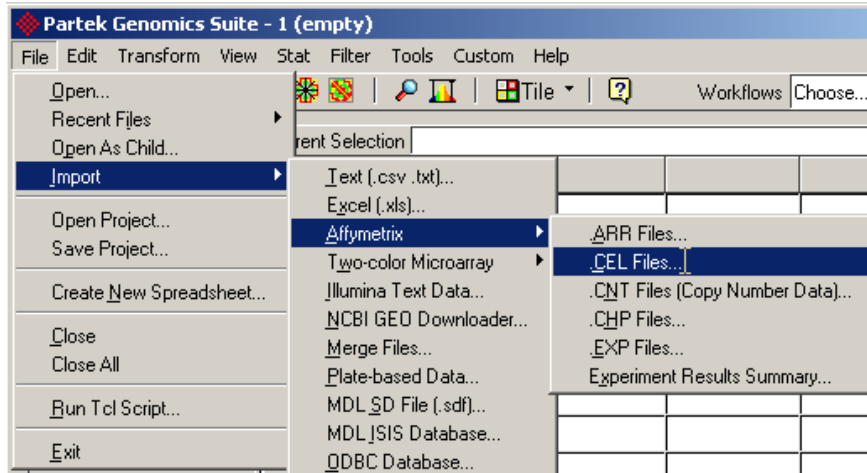

Figure 4. 17: The File > Import > Affymetrix > CEL Files menu item
- To import Affymetrix® CEL files, select **File > Import > Affymetrix Files... > CEL Files...** from the Partek main window (Figure 4. 19)
- Select the CEL files to process (Figure 4. 18)